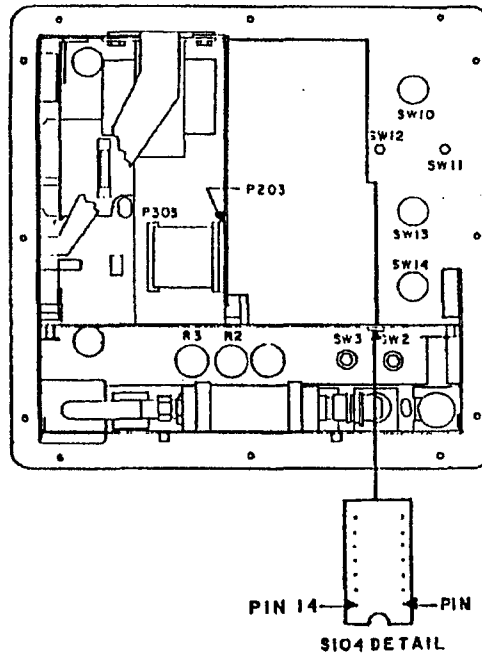

Figure 5-3. Socket S104 Pin Identification
3. Remove jumper plug P104 from socket S104 on the analog board (figure 5-3).
3. Connect voltage standard (table 5-1) to pins 12(+) and 13(-) of S104 (figure 5-3).